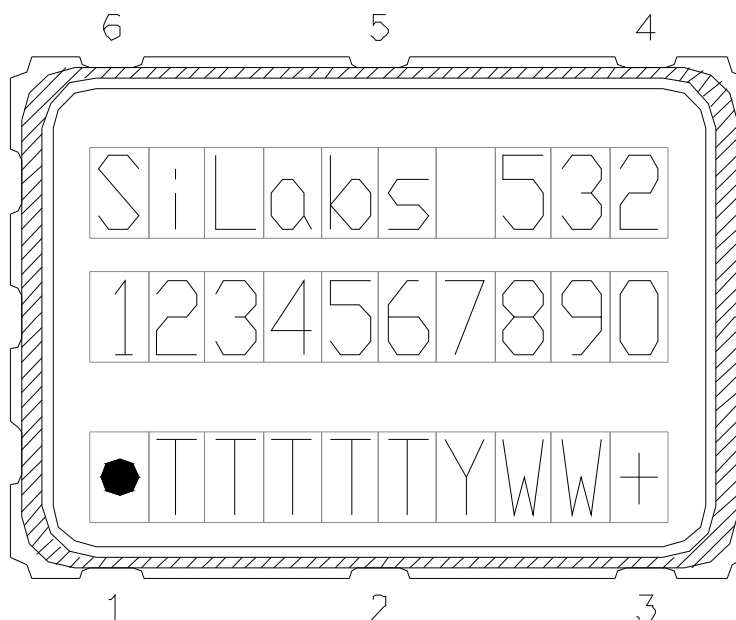

Figure 3. Mark Specification
Figure 3 illustrates the mark specification for the Si532. Table 11 lists the line information.
- Updated Figure 3 and Table 11 on page 9 to reflect specific marking information. Previously, Figure 3 was generic.